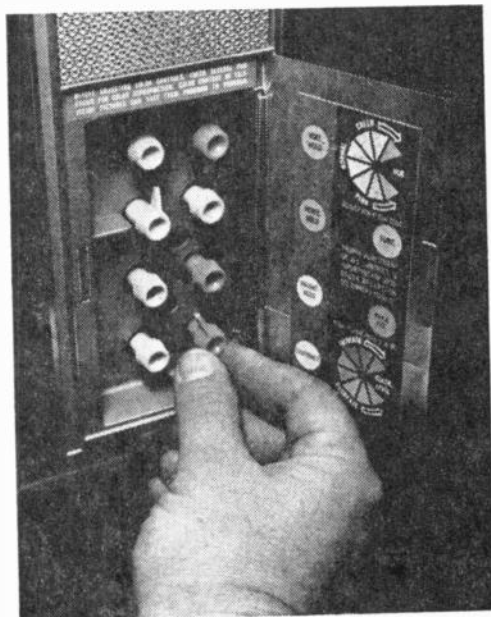

Fig. 3. All conventional controls—hold, width, linearity, etc. must be carefully adjusted first.
1. Conventional Adjustments. These are the familiar controls found on all TV receivers, monochrome or color. They include height, width, focus and linearity (see Fig. 3). Unless preset for proper performance, adjustments which control color will be seriously affected. Even setting of horizontal and vertical hold controls should be done with care. Misadjustment of horizontal hold can cause fanning out at the top of the picture, while a vertical hold set improperly may produce slanting, retrace lines. (A suitable crosshatch pattern from the color generator can serve as a guide for these initial picture adjustments.)